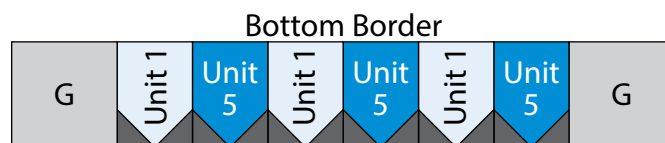

Fig. 13
9. Sew (3) Unit 1 rectangles and (3) Unit 5 rectangles together, alternating them from left to right. Sew (1) 7 1/2" Fabric G square to each end of the newly sewn strip to make the Bottom Border (Fig. 13).